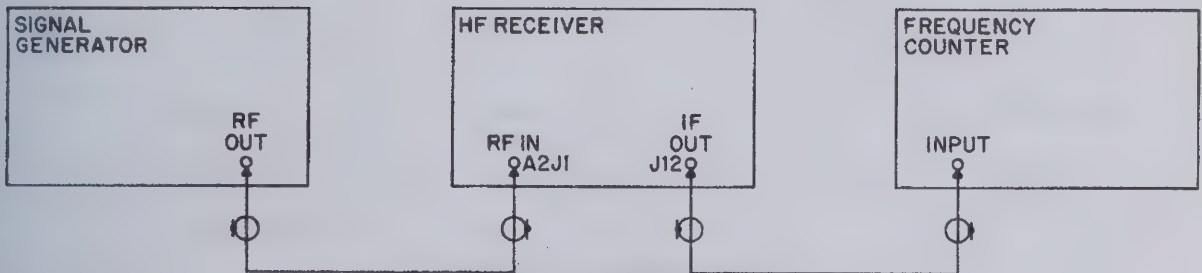

Figure 4-6. Frequency Tuning Performance, Test Setup.
1. Connect the test equipment to the receiver as shown in Figure 4-6.